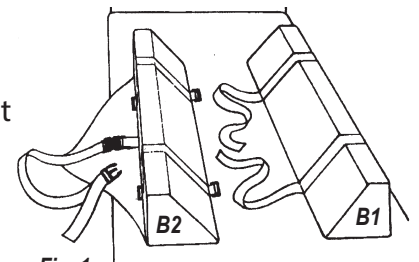

Fig. 1
1. Place the bolsters on the bed with the logo on top and the straps with the side release buckle to the outside. Note that on one bolster the fabric loop straps are located inward and on the other bolster the 2" webbing straps are placed inward (Fig. 1).